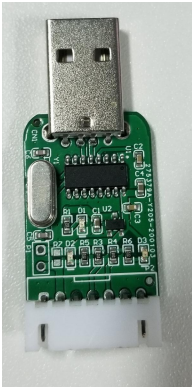
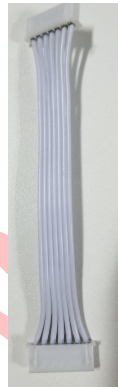

Figure 2.1
Figure 2.2
- TTL and wires; TTL is a complimentary accessory, please check it when receiving the goods. As shown in Figure 2.1 and Figure 2.2